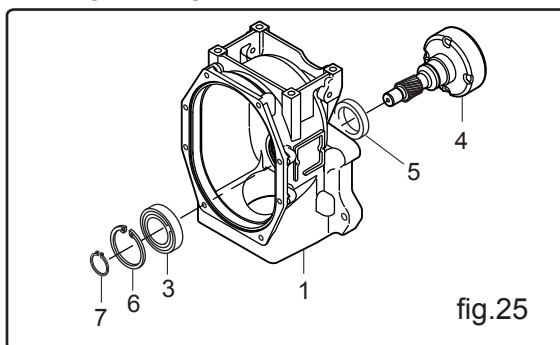

fig.25
K. Remove the pinion drum (4) from the crank case (1) with the press after removing the stop ring (7). (fig.25)